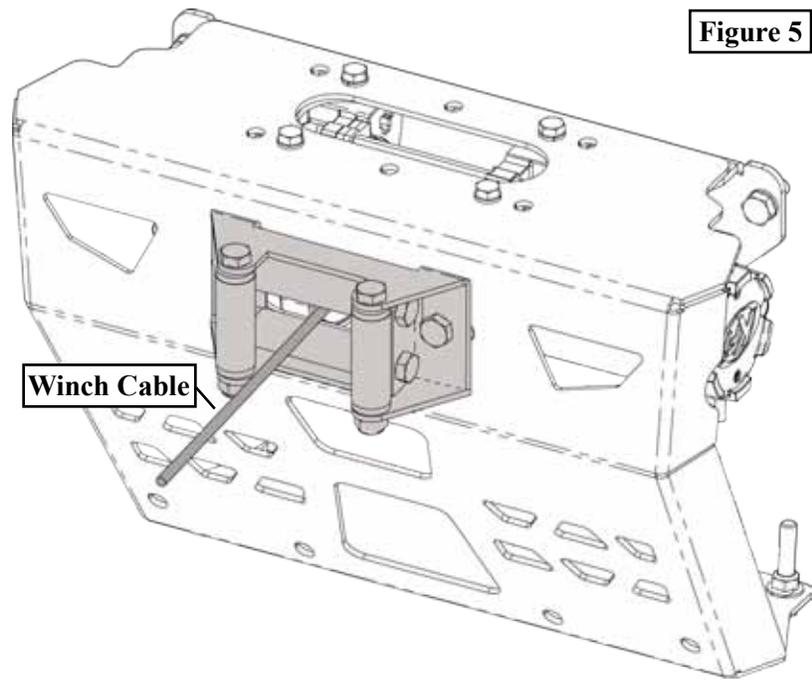

Figure 5
5. Install fairlead to fairlead bumper using bolts and nuts supplied with the winch. See **Figure 5**. Fully tighten fairlead.